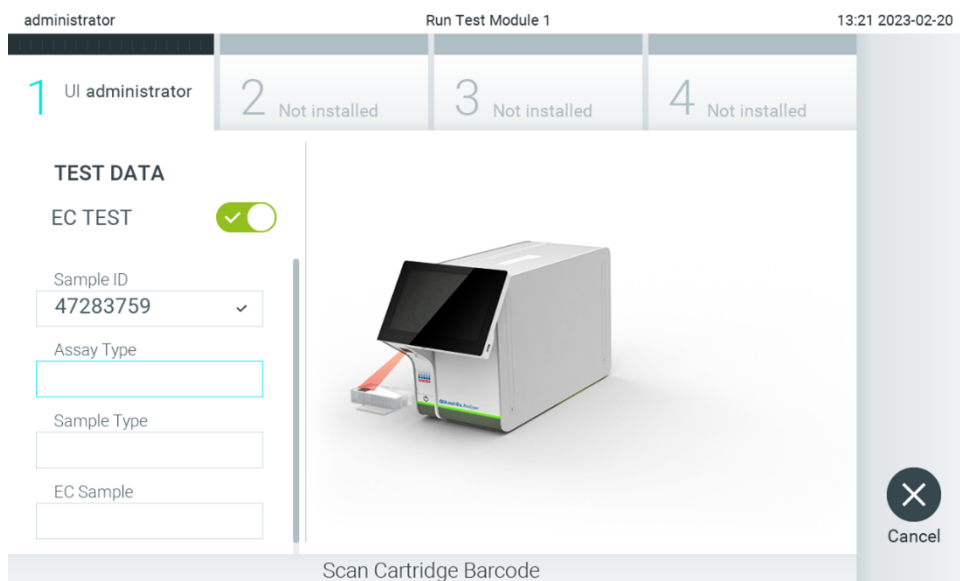

Figure 93. Scanning the QIAstat-Dx assay cartridge bar code.
- When prompted, scan the bar code of the QIAstat-Dx assay cartridge to be used. The QIAstat-Dx Analyzer 2.0 automatically recognizes the assay to be run, based on the QIAstat Dx assay cartridge bar code (Figure 93)